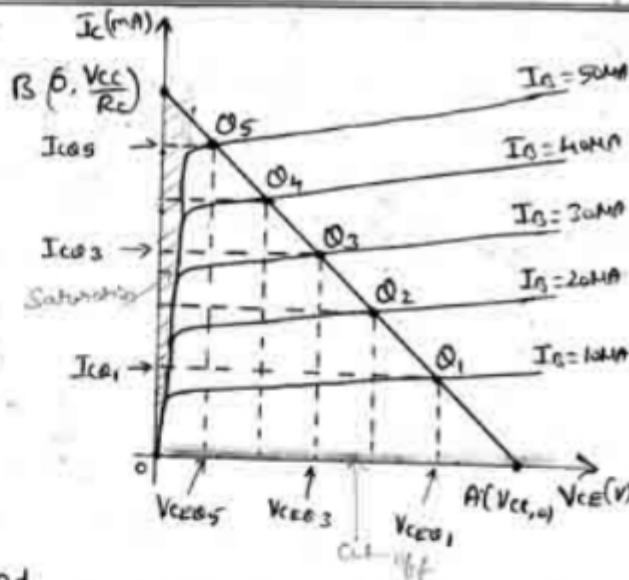

Fig 5: CE output characteristics
① Consider dc load line drawn on CE output characteristics as shown in fig 5